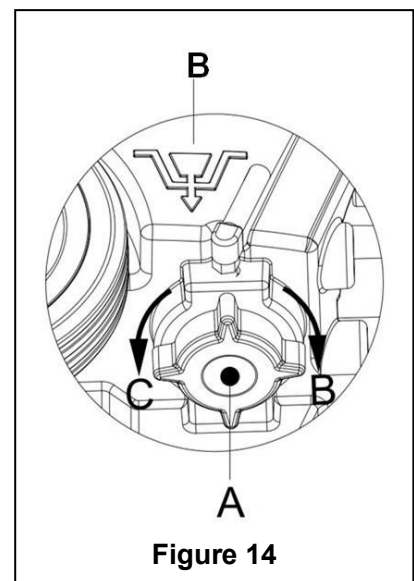

Figure 14
7. As shown in Figure 14, turn open the lid of Solution tank (A) anticlockwise along direction C, and drain Solution tank completely. Use pure water to cleanse the inside of Solution tank. When work is completed, turn tight the lid of Solution tank (A) clockwise in direction B.